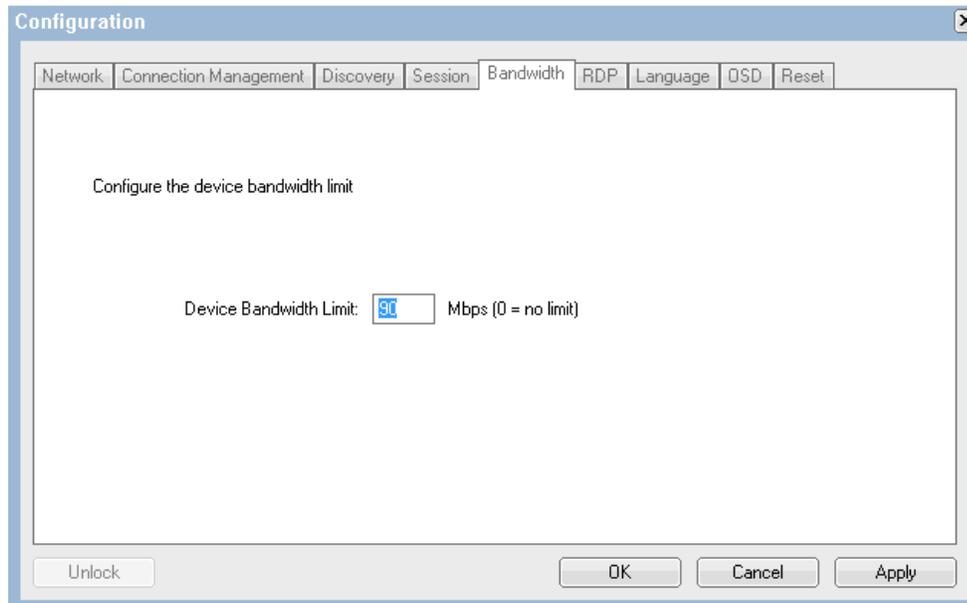

Figure 6-15 The Bandwidth tab of the CP20 interface
The Bandwidth tab, shown in Figure 6-15, allows a user to set the device bandwidth limit in Mbps. To set this as unlimited, simply enter zero (0) or enter any maximum amount.